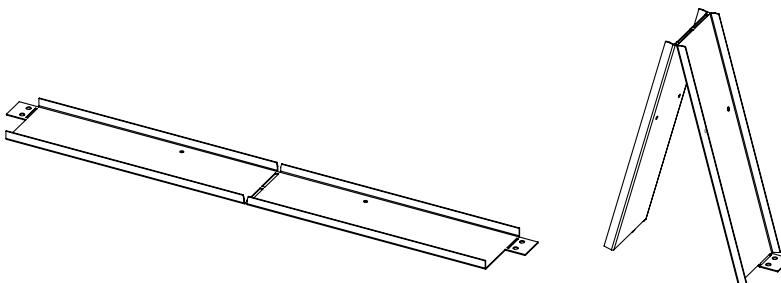

Figure 28: Top Standoff Shape
1. Bend top standoffs by hand to form general shape (see Figure 28).